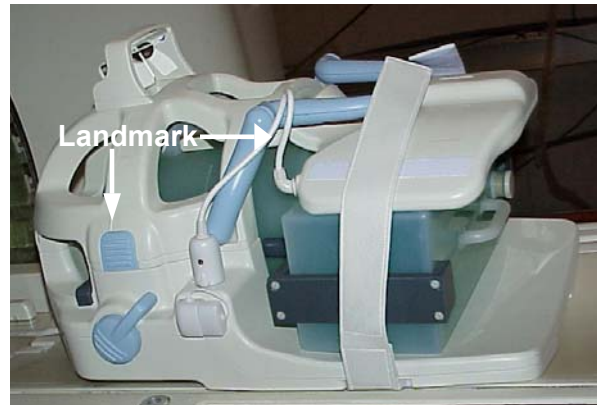

Figure 4: Positioning the phantoms on the coil.
2. Position the phantom set on the coil without the patient pad, using the positioner (see *Figure 4*).
3. Landmark on the horizontal line corresponding to the region of interest (see *Figure 4*).